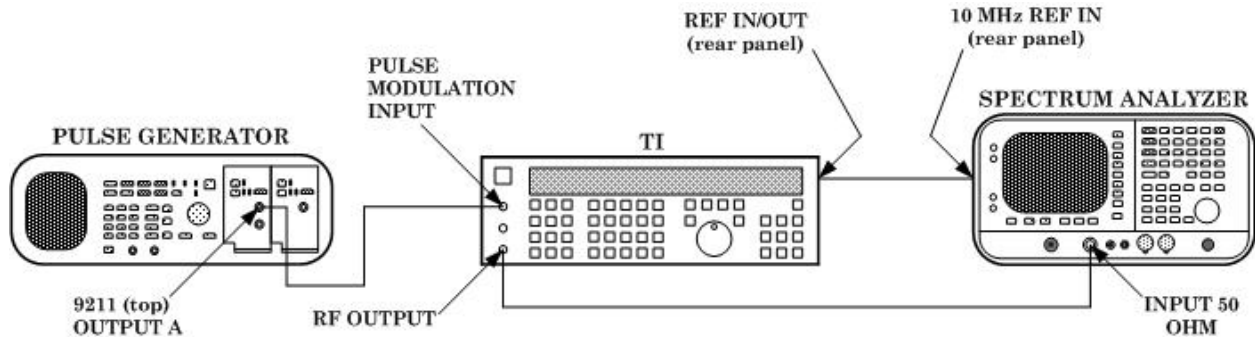

Figure 1. Pulse modulation on/off ratio hookup.
- (1) Connect equipment as shown in figure 1.
- (2) Press pulse generator pushbuttons for a pulse output as listed in (a) through (h) below: